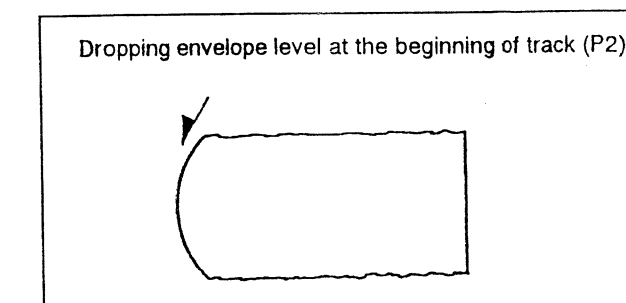
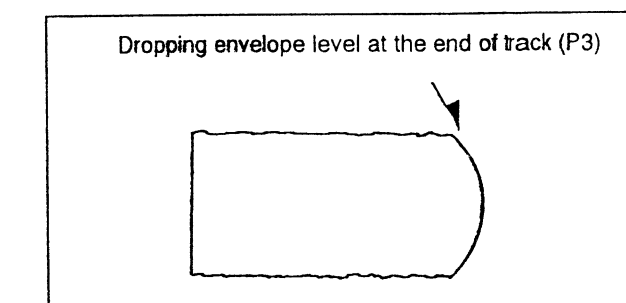
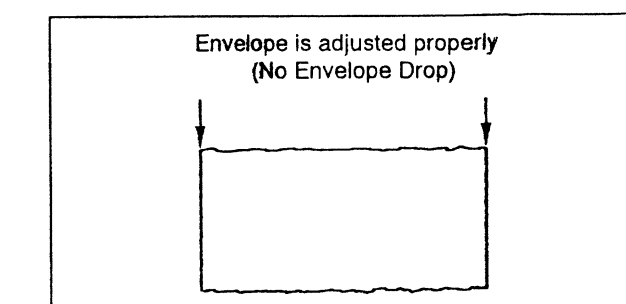

Fig. M18-2
Fig. M18-3
Fig. M18-4
3. When the scope display is as shown in Fig. M18-2, adjust the height of P2 so that the waveform looks like Fig. M18-4.
4. When the scope display is as shown in Fig. M18-3, adjust the height of P3 so that the waveform looks like Fig. M18-4.
5. When P2 and P3 are adjusted properly, there is no Envelope Drop at the beginning or end of the track as shown in Fig. M18-4. Remove the jumper wire.